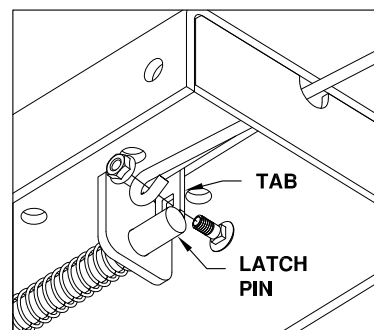

Figure F2: Handle Installation
2. Secure the handle to the pin with the  $\frac{5}{16}$ " X  $\frac{3}{4}$ " carriage bolt and  $\frac{5}{16}$ " locking flange, see Figure F2. Note: The included  $\frac{5}{16}$ " cap screw can replace the carriage bolt if wrench access on the "cab side" of the handle is limited. Tighten the nut until it is secure. Do not over-tighten and deform the handle eyelet.